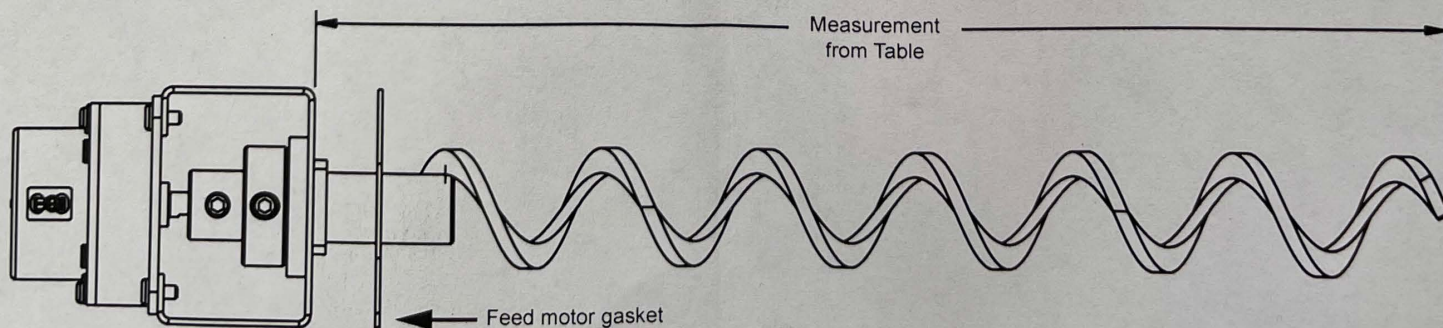

Figure 1
2. The table below will display the length needed for each appliance from the end of the spring to the base of the feed motor bracket; see **Figure 1** for an example: